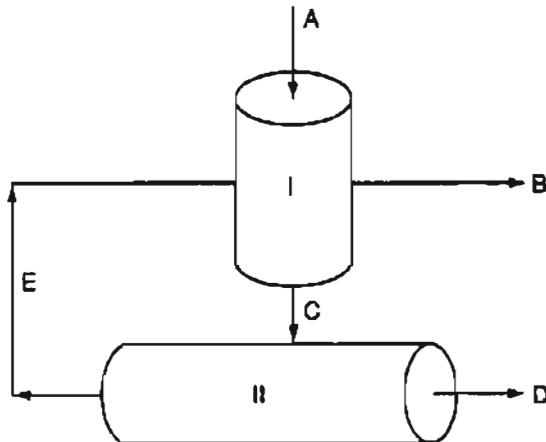

Figure P12.4
*12.4 In the process shown in the Figure P12.4 Unit I is a liquid-liquid solvent extractor and Unit II is the solvent recovery system. For the purposes of designing the size of the pipes for stream C and D, the designer obtained from the given data values of $C = 9,630 \text{ lb/hr}$ and $D = 1,510 \text{ lb/hr}$. Are these values correct? Be sure to show all details of your calculations or explain if you do not use calculations.